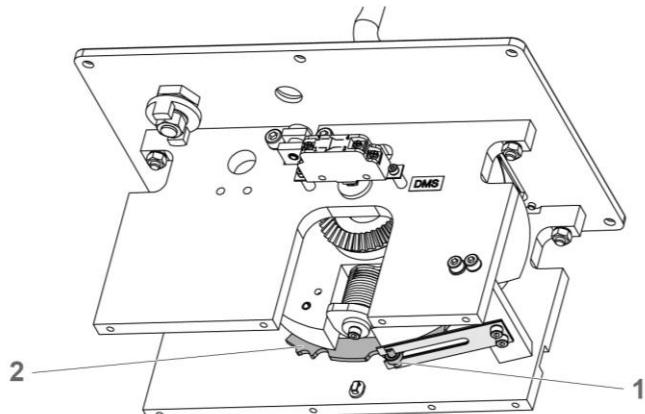

Figure 6-3: Lubricate Master Controller Moving Parts
1. Remove old grease and abrasion with the cleaning cloth. See Figure 6-3.
- detent roller (1) and detent disk (2)